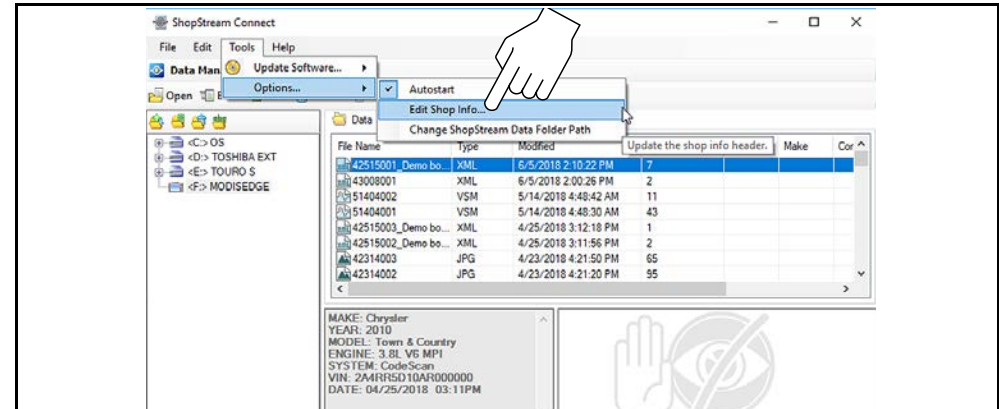

Figure 7-9
1. From ShopStream Connect, select **Tools > Options > Edit Shop Info** (Figure 7-9).